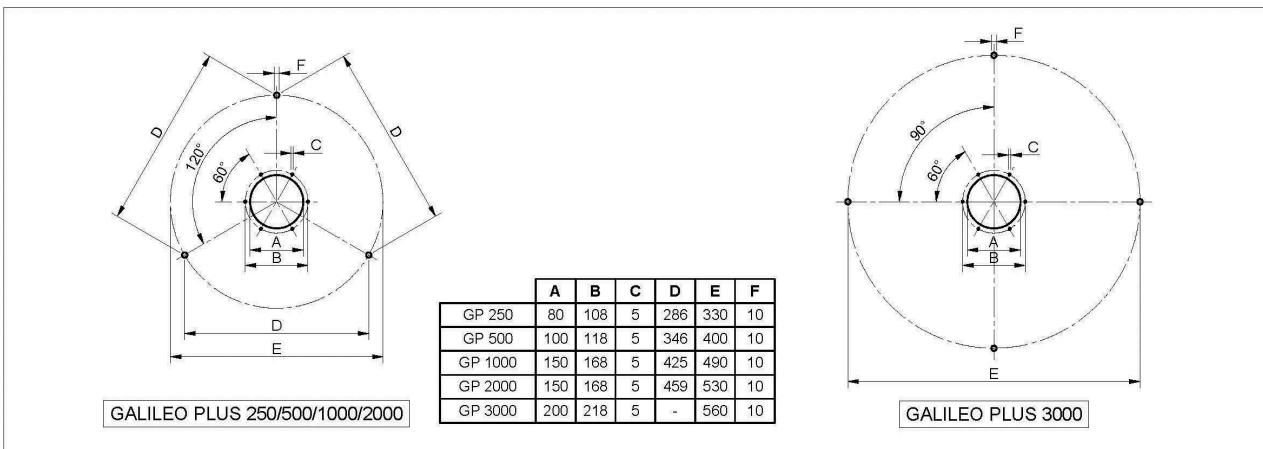

Fig. 8 – Drilling schemes
- Drill the necessary holes to position the air filter on the machine cabin, as illustrated in the drilling schemes Fig. 8.
- If the PRT pipe connection plate is necessary, drill the 6 holes, diam. 5, on the machine cabin, as illustrated in the drilling schemes Fig. 8.